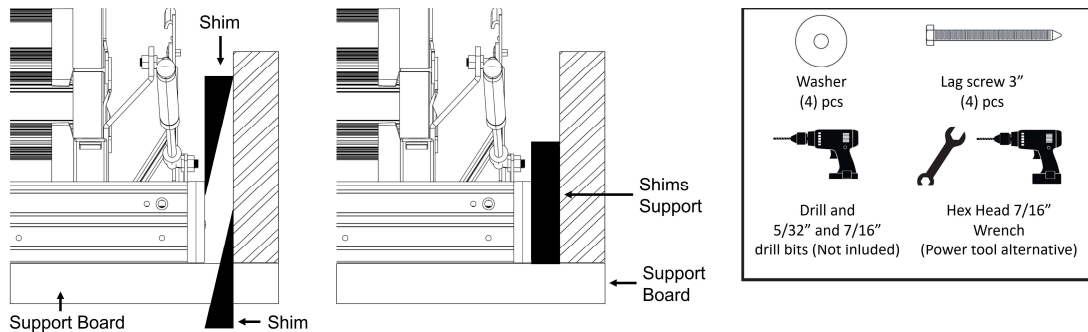
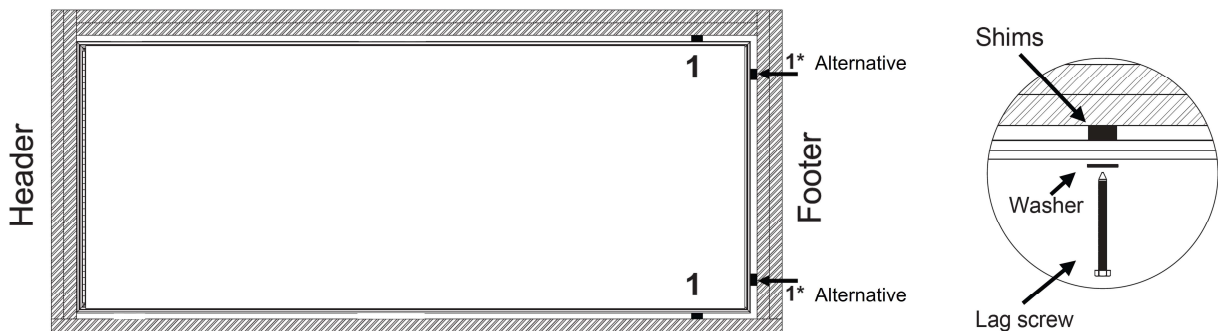
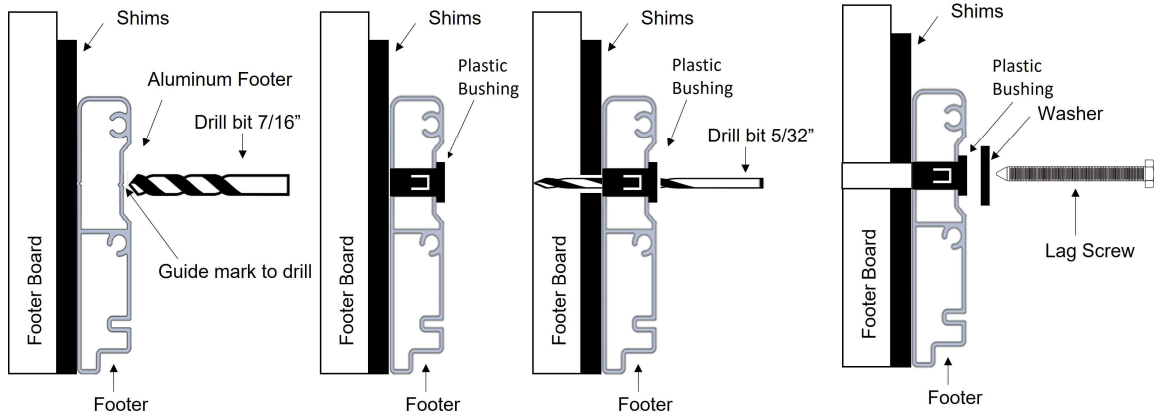

FIGURE 16 : SHIMMING SIDE FRAME.
FIGURE 17 : DRILLING AND SECURING PILOT HOLES AT SIDE
FIGURE 18: ALTERNATIVE INSTALLATION (SEE NOTE ON SECTION N)
N. Installer #1 and #2: Place shims from above and below (See **Figure 16**) at the 2 pre-drilled holes at position 1 indicated in **Figure 17**. The shims should provide uniform support so there is no twisting or bowing of the aluminum frame. Drill 5/32" diameter by 3" deep pilot holes into the ceiling joist through the bushings at position 1. Install the two lag screws to secure the attic ladder side frames.
If using the alternative position: Drill 2 holes using 7/16" drill bit from the inside of ladder **only through aluminum footer profile** (See **Figure 18**) and centered at the location you placed the footboard shims in Section J. **At this point the footer shims will become a necessary permanent part of the installation.** Next, install plastic bushings following the same procedure as in Section B. See **Figure 17** and **Figure 18**. Then, drill 3" deep pilot holes through the bushings, shims and into the ceiling joists. Finally install two lag screws and two washers at each footer location to secure the attic ladder. (See **Figure 18**)